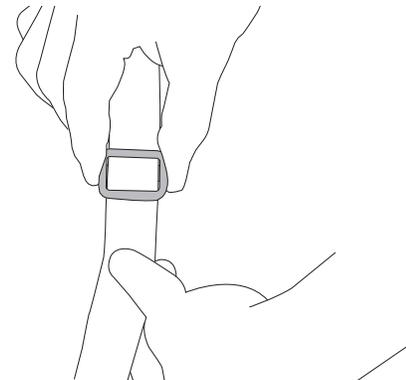

Figure 18
- Both the shoulder straps and the waist/crotch straps may be adjusted using the sliding buckles on these straps. See Figures 18 and 19.